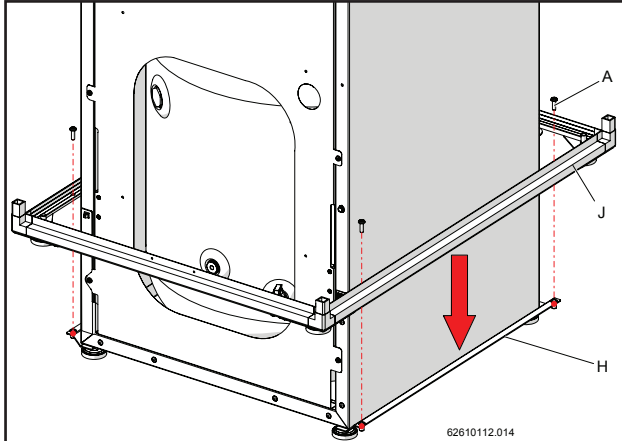
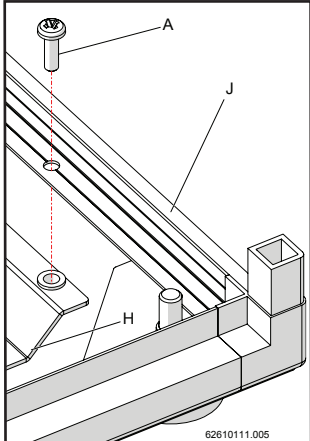

Figure 12-5
Figure 12-6
- 3.- Insert the lower frame "J" (figure 12-5) and secure it to bracket "H" with the screws "A" through the holes (figure 12-6).